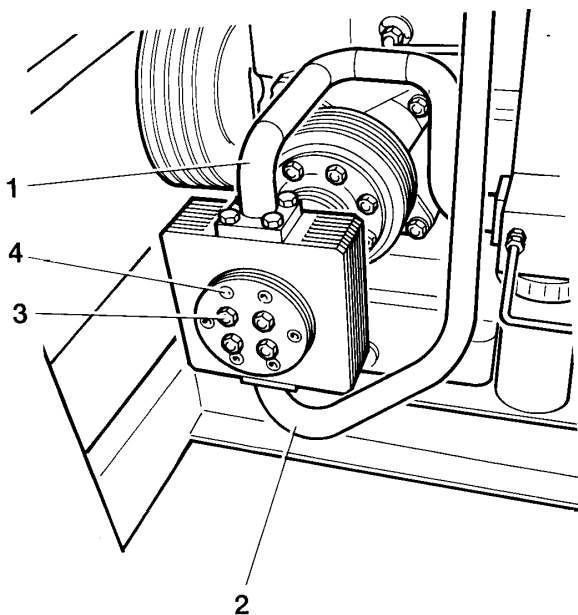
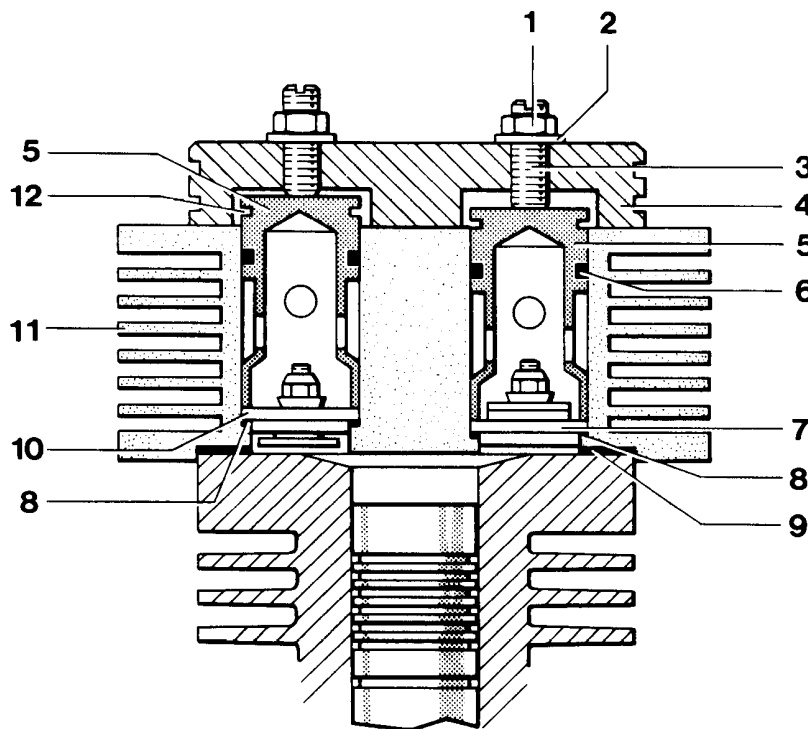

Fig. 60 Cylinder and valve head 3rd stage
Fig. 61 Valve head and valves, 3rd stage
The 3rd stage valves are located in the valve head of the 3rd stage. Two inlet and two discharge valves are provided (Fig. 60).
Remove and reinstall the valves for replacement as follows (see Fig. 60 and Fig. 61).
- Remove connecting pipe (1, Fig. 60) between valve head inlet and intermediate separator, 2nd stage.
- Remove connecting pipe (2) between valve head outlet and after-cooler.
- Unscrew and remove hex. nuts (3).
- Loosen studs (3, Fig. 61) a couple of turns.
- Remove six allen bolts (4, Fig. 60) from valve head cover and remove valve cover (4, Fig. 61).
- Insert two screwdrivers into groove (12) of the valve cap (5) and lift out valve cap with O-ring (6).
- Check O-ring (6) and replace if required.
- Pull out valves (7) and (10).